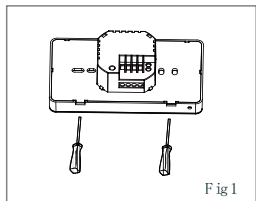

Fig 1
Step 1: Use a screwdriver to pry open the mounting plate along the buckle position. After prying open, connect the cable to the screen and the power box without removing the cable.(Fig1).
Step 1. Keep power off. See Fig 1.